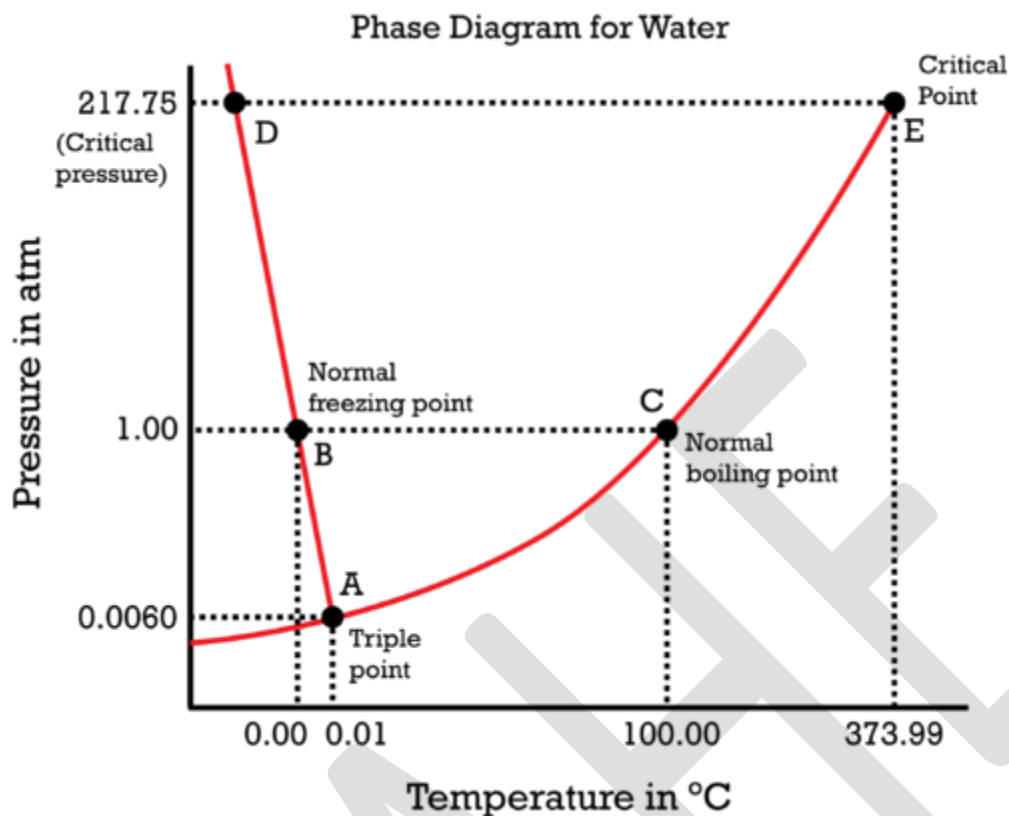

Figure 1
b. The system acetic acid - chloroform - water is one of the classical examples of partial miscibility in a ternary system, first studied by Wright, Thompson, and Leon in 1891 (1). Thanks to the subsequent workers Brancker, Hunter, and Nash (2), the equilibrium relations at 25° are very well known, as far as the compositions of equilibrium liquid layers are concerned. Nothing, however, is known about: (a) the solid-liquid equilibria at low temperatures; (b) equilibrium liquid compositions at temperatures other than 25°; (c) the critical phenomena, L1-V (L1 = chloroform layer) and L2-V (L2 = aqueous layer). So far no study has been made of critical phenomena in any system exhibiting partial miscibility in the liquid state and the results arrived at in this paper have general applicability to all systems of this kind. A previous paper (3) has dealt with the thermodynamics of this system, as exemplified by the vapor pressures and densities
Because of the chemical natures of the substances named in the title, formation of compounds or of solid solutions is inherently improbable and therefore the study of the freezing point curves was expected to yield little of interest. The study was, however, carried out for the binary systems chloroform - acetic acid and chloroform - water, and for the ternary system, using a double-junction copper-constantan thermocouple, a Brown Elektronik recorder, and liquid nitrogen as a coolant. The system acetic acid -water was previously studied by various workers (4) and the eutectic found to lie at 58.1% acetic acid and  $-28.5$  to  $-27.0^{\circ}$ . The eutectic of the chloroform - acetic acid system was found to lie at 91.8%  $\text{CHCl}_3$  by weight, and  $-67.5^{\circ}$  (Fig. 1). In the system chloroform-water, the eutectic lies at 0.1%  $\text{H}_2\text{O}$  and  $-64.0^{\circ}$ . The ternary eutectic was found to lie at  $-70^{\circ}$  and 90.7% chloroform, 8.3% acetic acid, and 1.0% water. The eutectic trough leading from the acetic acid -water eutectic to the acetic acid -chloroform eutectic was determined experimentally.